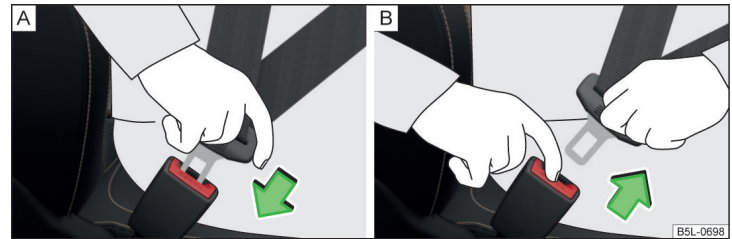

Fig. 19 Fastening/unfastening the seat belt
- Insert the lock tongue into the belt buckle for the seat » Fig. 19 - [A] until it audibly clicks into place.
- Hold the lock tongue and press the red button in the belt buckle » Fig. 19 - [B]. The lock tongue pops out.